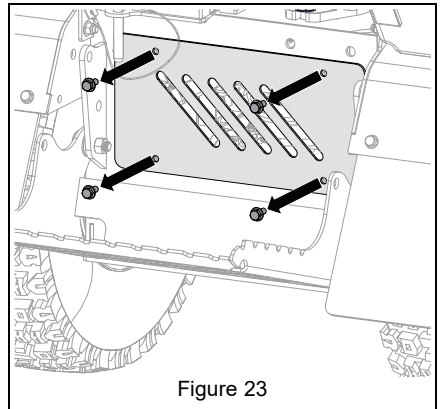

Figure 23
2. Remove and retain hex bolts securing rear access panel to frame. Remove access panel. See Figure 23.